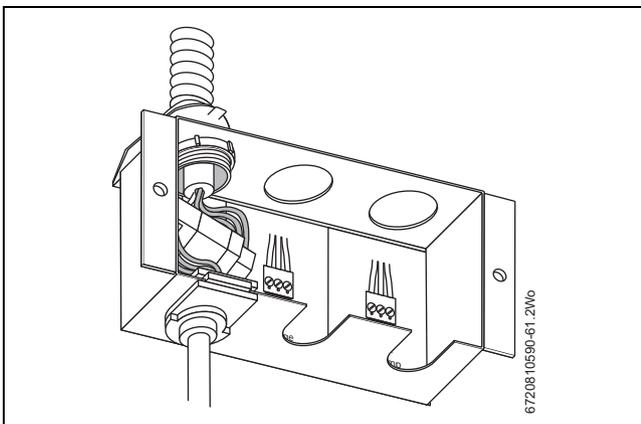

Fig. 49 Cable connected (mains power supply)
- ▶ Insert cable into the junction box as shown in Fig. 49.